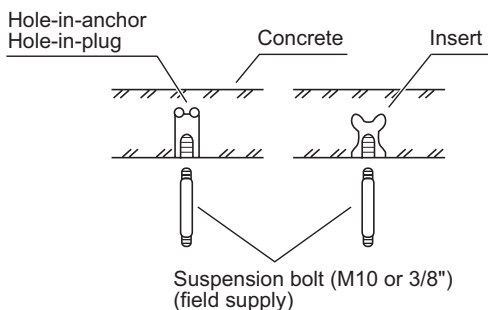

Fig. 2-77
- Insert suspension bolts (Fig. 2-77)
- (2) Screw in the suspension bolts allowing them to protrude from the ceiling (Fig. 2-77).